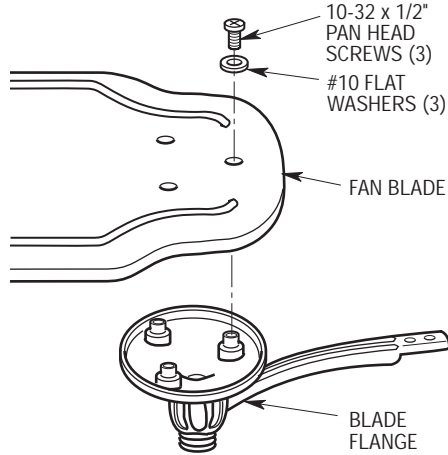

Figure 1
- 1. Mount the fan blades to the blade flanges using three 10-32 x 1/2" pan head screws and three #10 flat washers (screws and washers supplied) (Figure 1).